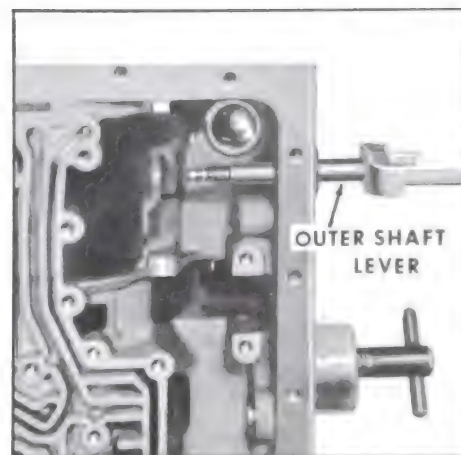

Figure 5-287
4. With a twisting motion insert outer range selector lever into case. See Figure 5-287.